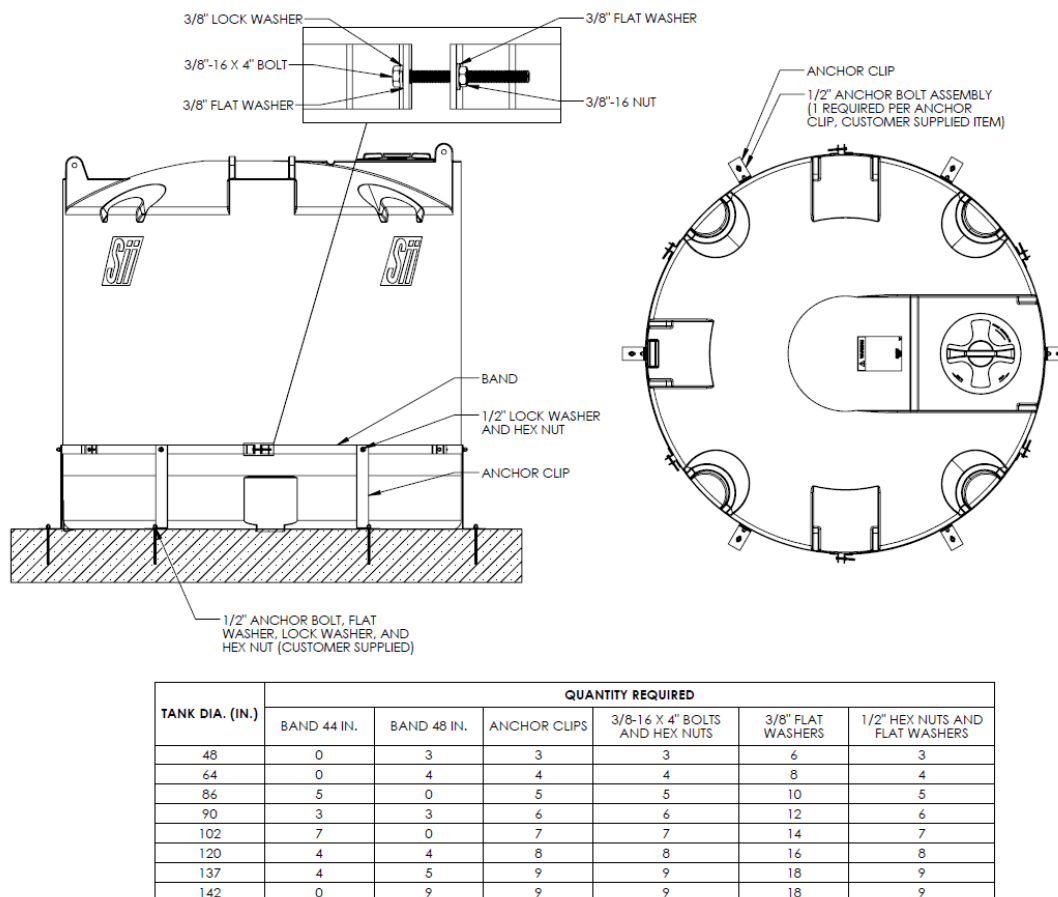

Figure 8.1
8.1.1 The lateral restraint system is designed for tank position restraint on a concrete pad inside of an enclosed building. **It is not designed for wind or seismic restraint capabilities.** Using the assembly drawing and table shown in Figure 8.1, verify that all parts are present.